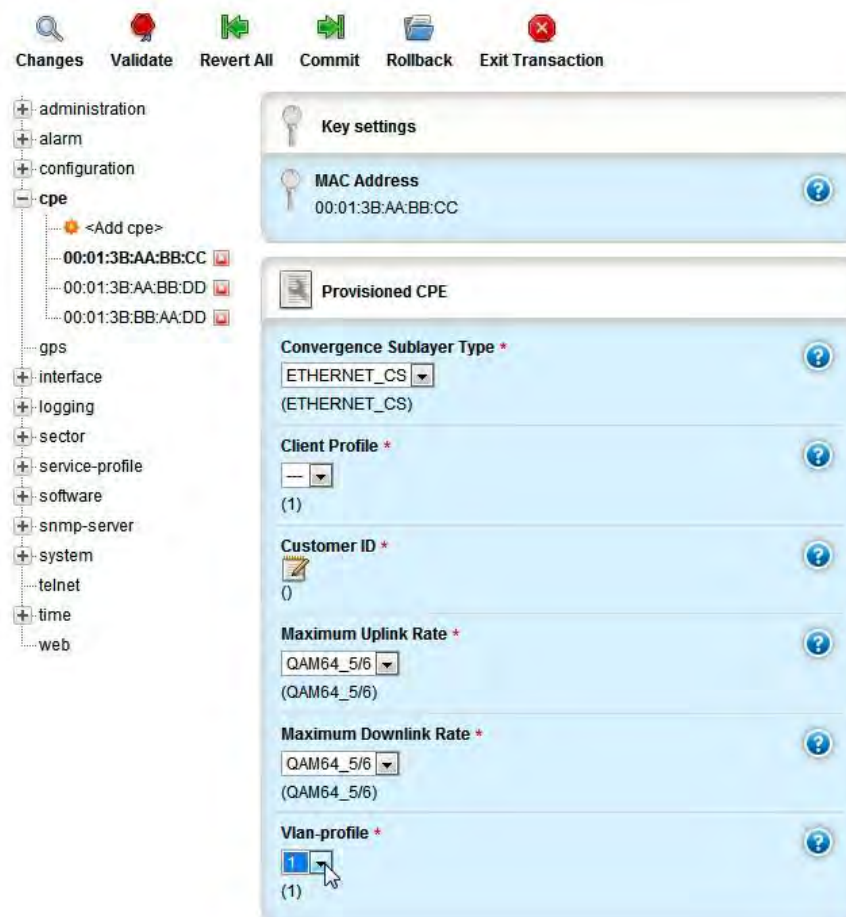

Figure 98 Add Subscriber CPE Settings
- The User will now be presented with the Subscriber configuration options. The options to select are (Figure 98):
Figure 98 demonstrates a more complex but still typical "Voice and Data" type of application.